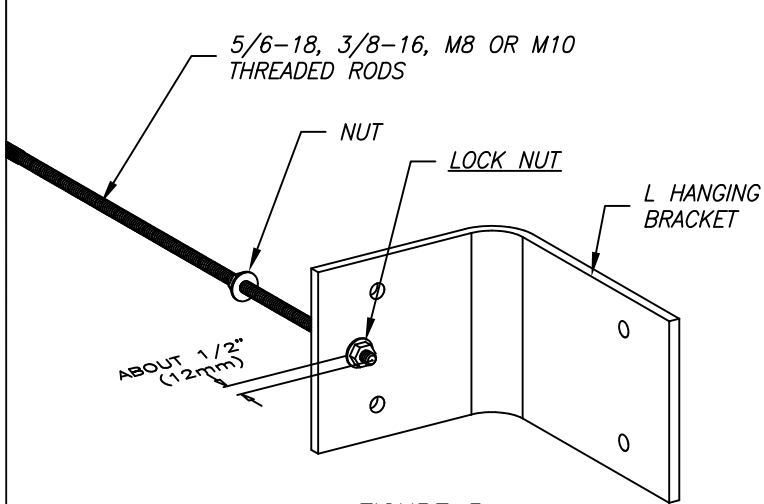

FIGURE 5
- 2 - FASTEN LOCK NUT. ALLOW ONLY ABOUT 1/2" TO PROTRUDE THROUGH BOTTOM OF SLOT AS SHOWN ON FIG 5 AND 6.